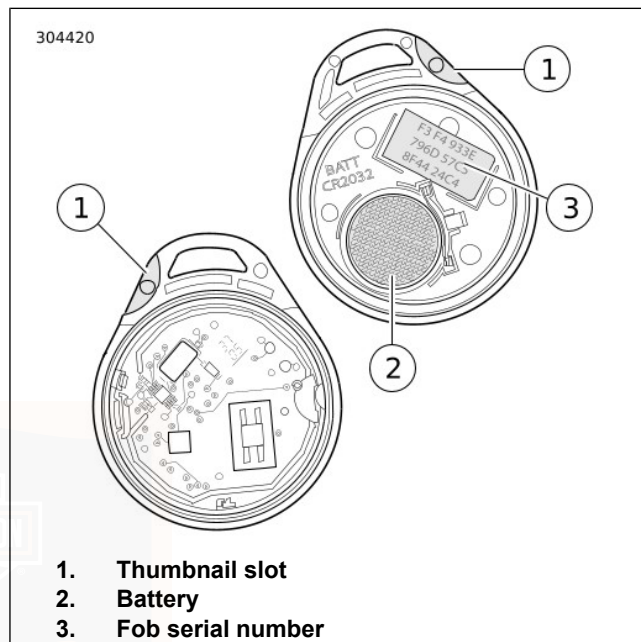

Figure 23. Hands-Free Fob Battery
1. See Figure 23. Slowly turn a thin blade in the thumbnail slot (1) on the side of the fob to separate the two halves.
2. Remove the battery (2) and discard.